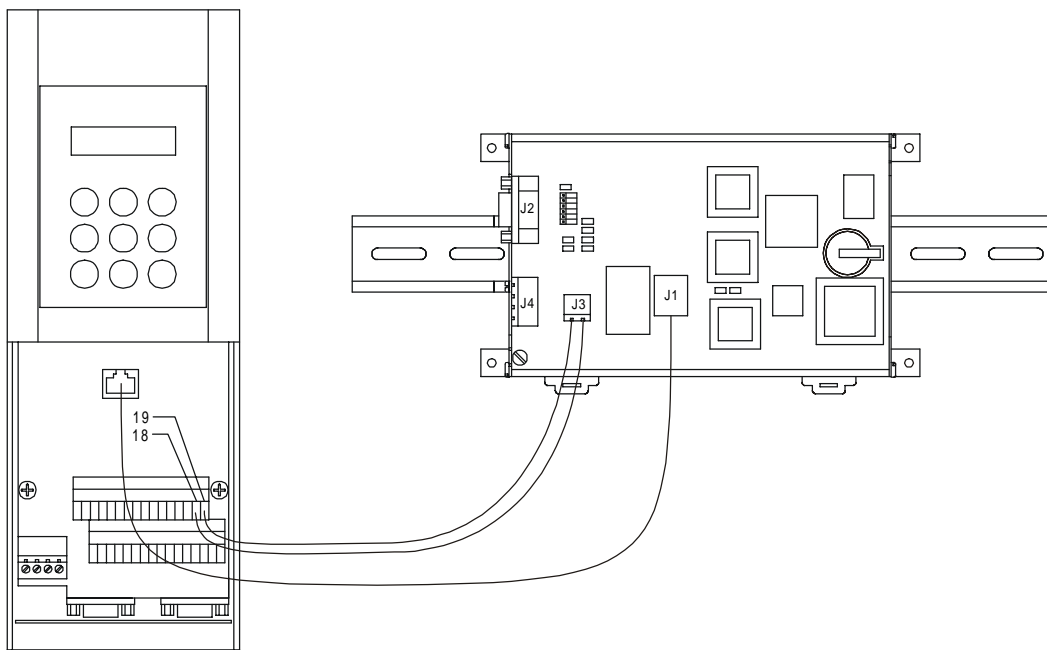

Figure 8.7 – Installing GEN251
5. Attach the supplied telephone type cable between the GEN251 and the regulation board. (Figure 8.7.)
6. Plug the two-wire cable into the GEN251. Route the power cable through the knockouts that cover the GEN251 connectors and plug into Terminal pin 18 (black) and pin 19 (red). (Figure 8.7.)